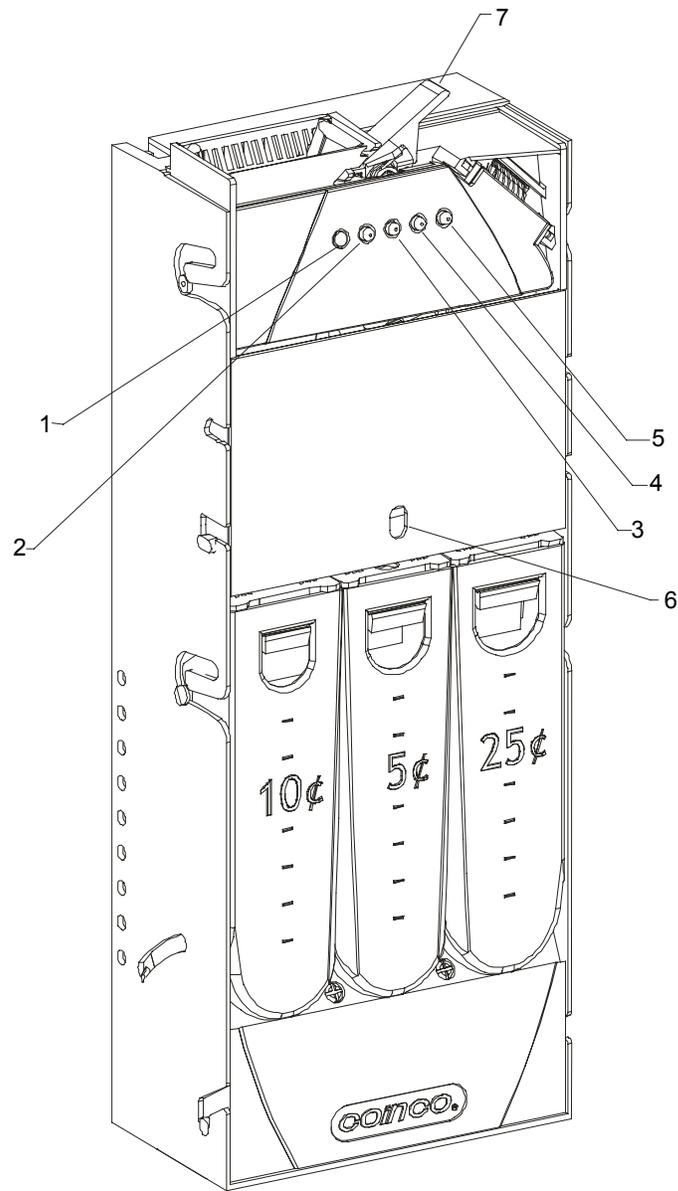

Figure 2
2. Remove the Acceptor from the Changer housing by lifting the hopper release lever (see Figure 2) on the front of the Acceptor, and pulling the top of the Acceptor forward, away from the Changer housing. Disconnect the Acceptor's ribbon cable from the Changer Board. Lift the Acceptor slightly to free the lower acceptor studs from the Changer housing. Place the Acceptor in a clean area.